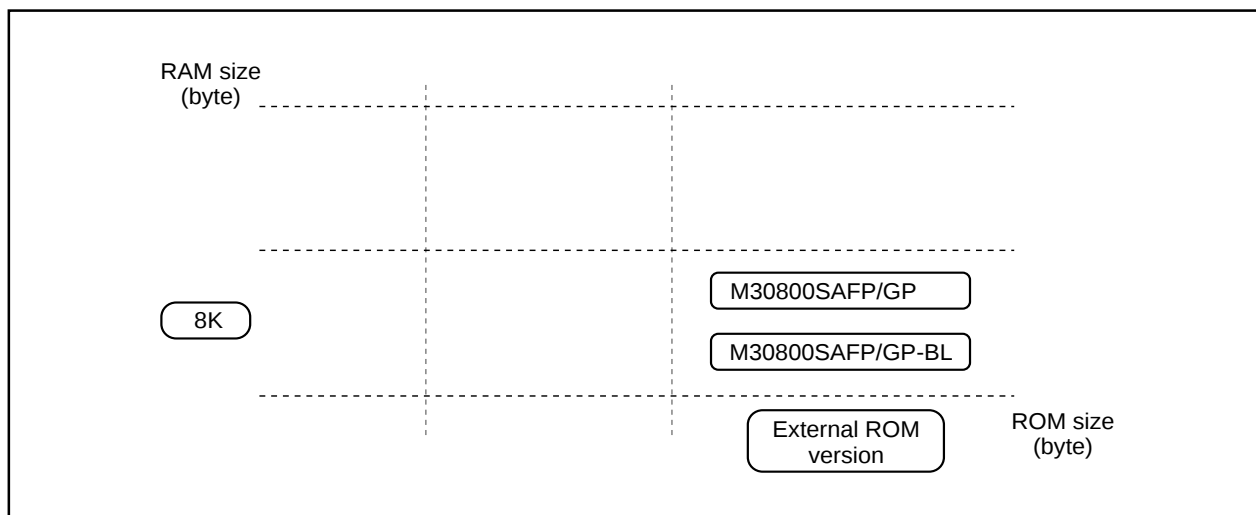

Figure 1.1.1. ROM expansion
- (1) ROM type : External ROM version and External ROM version with Boot loader
- (2) ROM/RAM variation : Figure 1.1.1
- (3) Package type